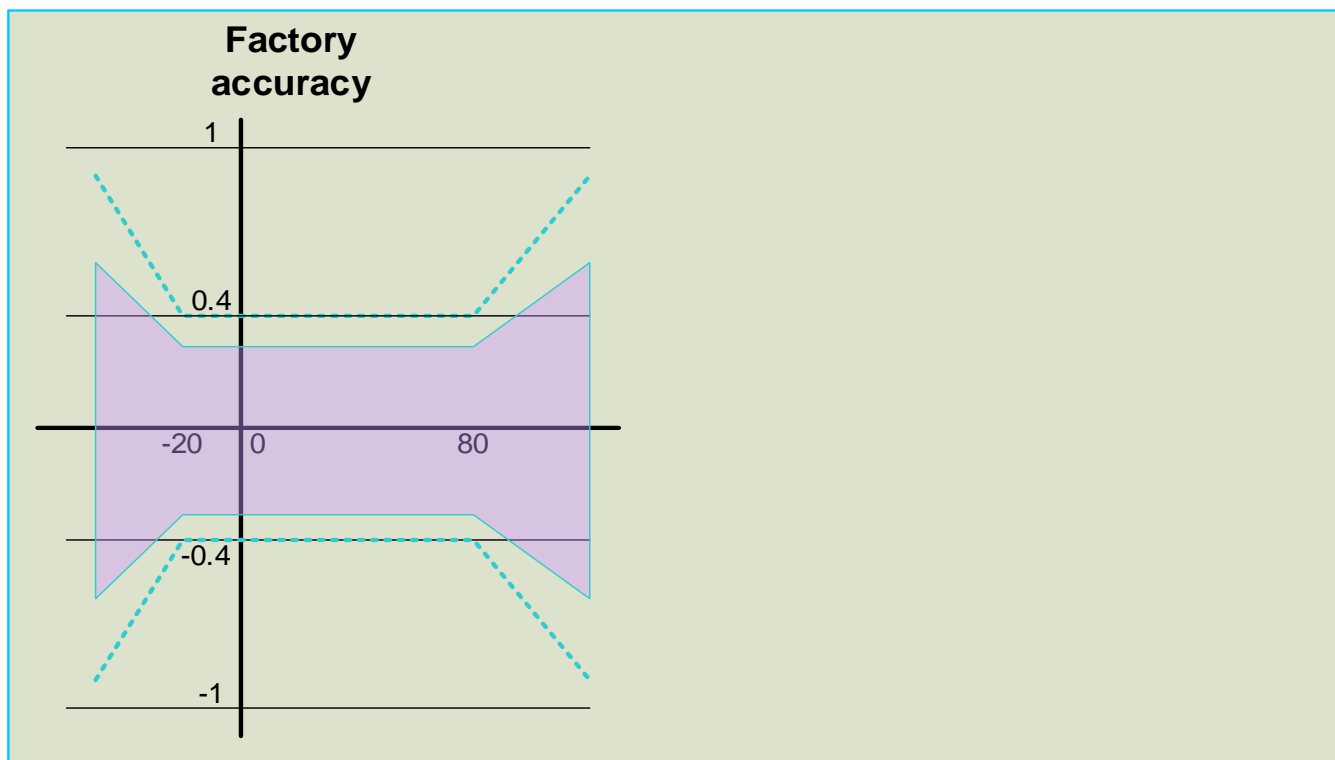

Figure 17. Typical characteristic curves
- 3) Typical curves are shown in Figure Figure 17.
- 1) Typical characteristic curves are shown in Figure Figure 17.